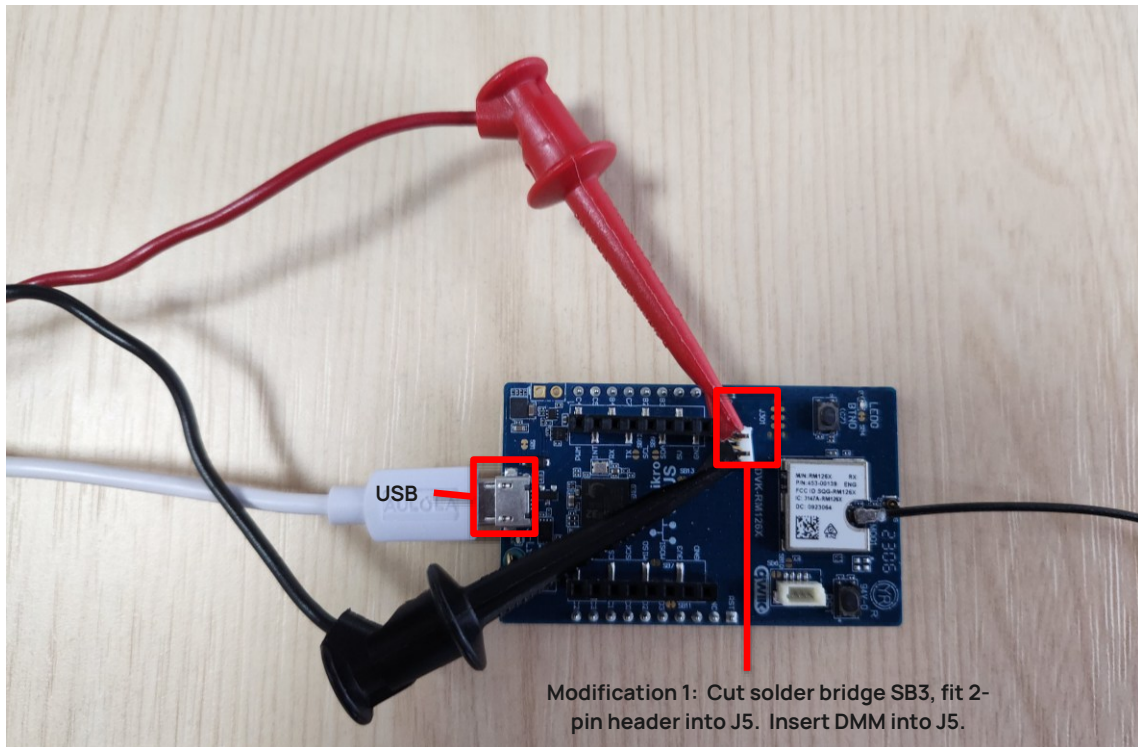

Figure 1: RM126x series development board modifications for adding J5 pin header (cut SB3)
1. Modification 1: Cut solder bridge SB3 (on bottom side of board) and solder 2-pin header into J5, as shown in Figure 1.
2. To measure the module's current consumption, connect the current measuring DMM to J5 on the board (Figure 1).